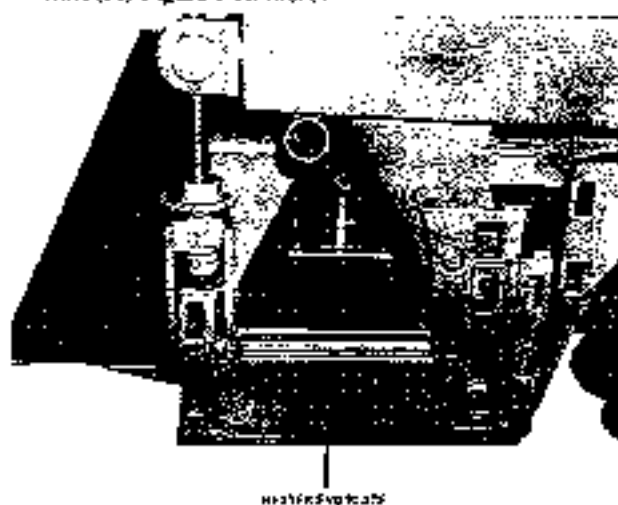

FIGURE I-14 - Screed Extension Installation
1. Remove heater end plate, Figure I-14.